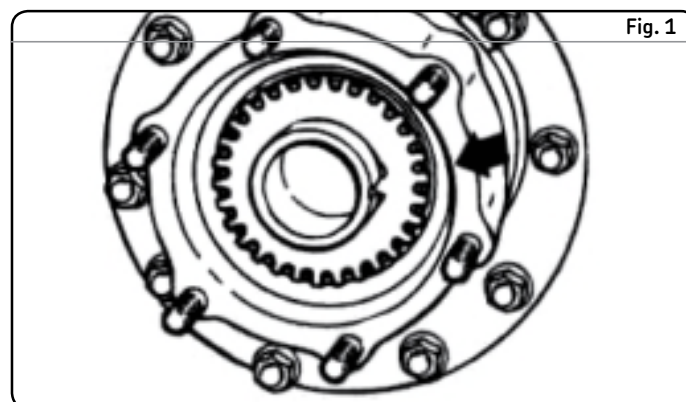

Fig. 1
- 2 Install the wheel bearing lock washer as shown in **fig. 1**.